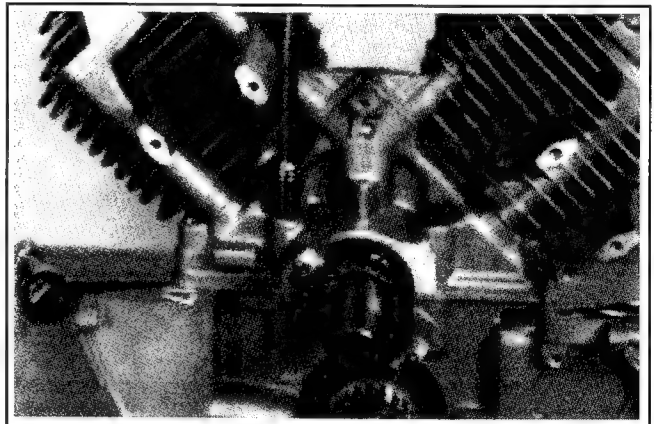

Figure 9-41. Removing the M8x70 mm Hex. Flange Screws.
1. Remove the two 70 mm long screws securing crankcase halves on flywheel side. See Figure 9-41.